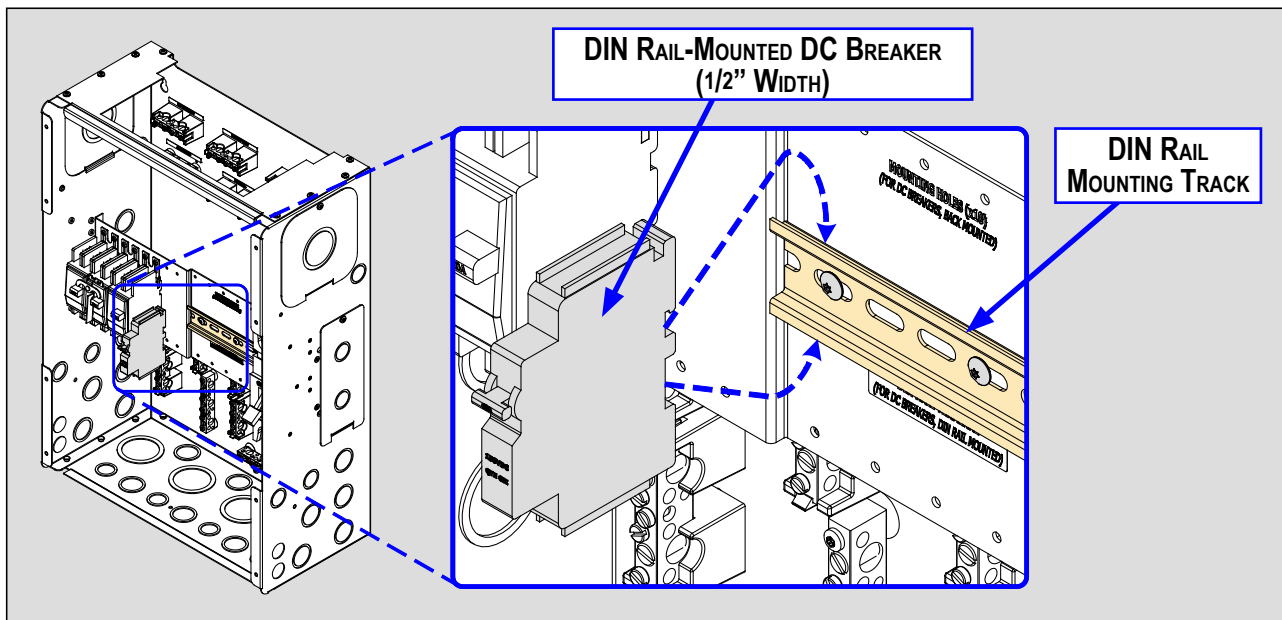

Figure A6-1, Installing DIN Rail-Mounted DC Breakers
2. **For DIN rail-mounted breakers** (refer to Figure A6-1):